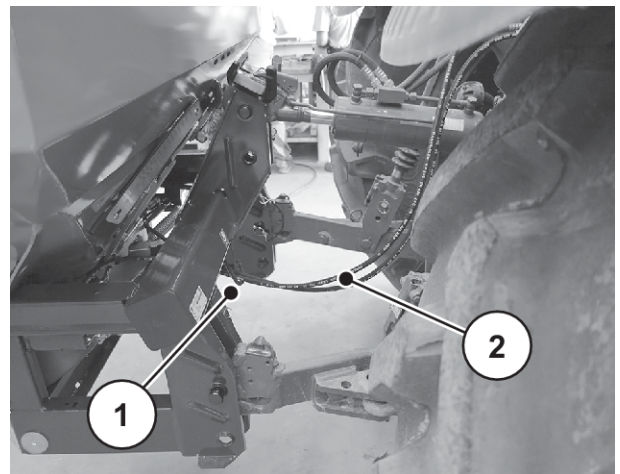

Fig. 25: Hydraulic hose guide
- ▶ Lay the hydraulic hoses below the cross pipe. See *Fig. 25 Hydraulic hose guide*